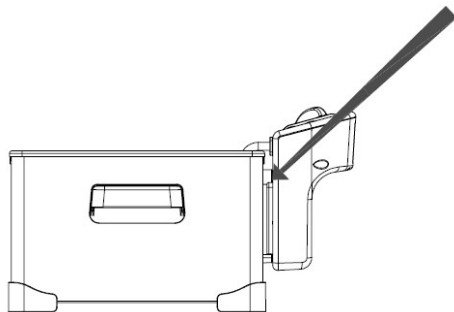

**Fig. 2**
3. Fit the heating elements into the oil tanks ensuring that the control panel is correctly engaged into the brackets (figs.2 & 3). If the control panel is not correct fitted, the micro switches will prevent the fryer from working (fig. 4).
- How to fit the control housing to the outer casing – figs 2 - 4.